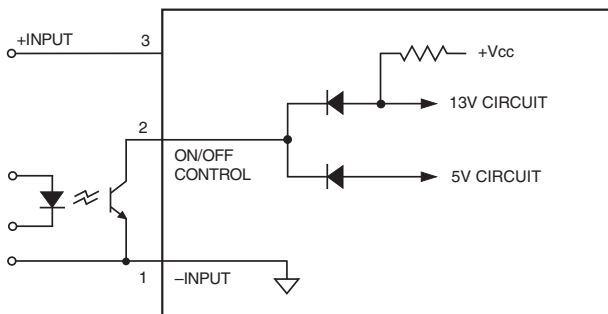

Figure 9. Driving the Negative Polarity On/Off Control Pin (simplified circuit)
**Positive** (no suffix) polarity models are enabled when pin 2 is left open (or is pulled high, applying +3.5V to +13.5V with respect to -Input, pin 1) as per Figure 9. Positive-polarity devices are disabled when pin 2 is pulled low (0 to 0.8V with respect to -Input).